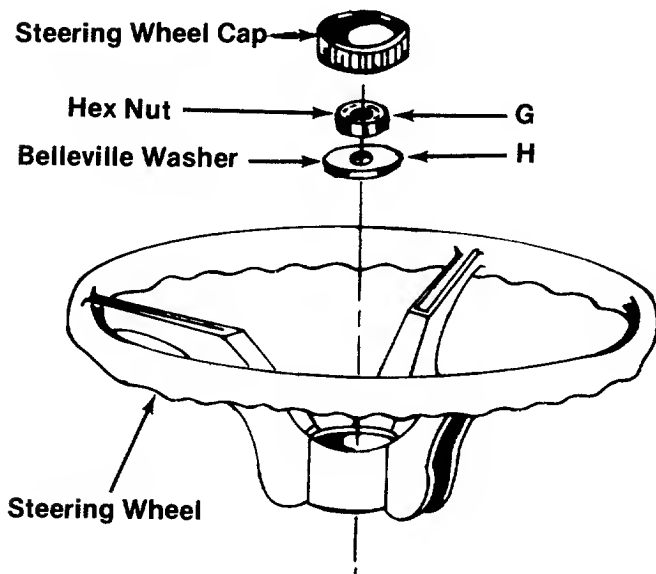

FIGURE 2. STEERING WHEEL ASSEMBLY
Step 3. Secure with Belleville washer and hex nut. See figure 2.
Step 4. Press the cap on the steering wheel by hand. See figure 2.